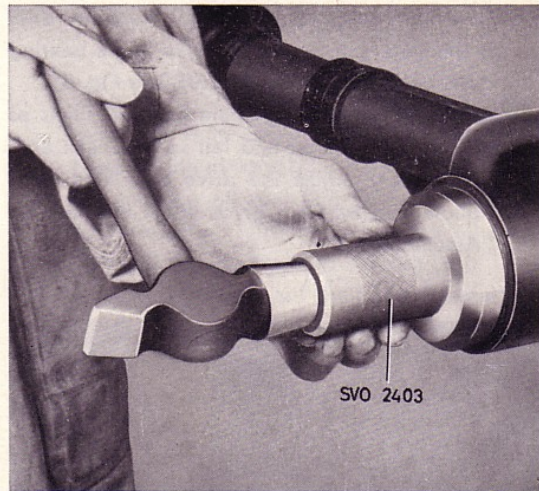

Fig. 8. Fitting the oil seal.
3. Insert a new paper gasket and fit the new oil seal with tool SVO 2403, as shown in Fig. 8.